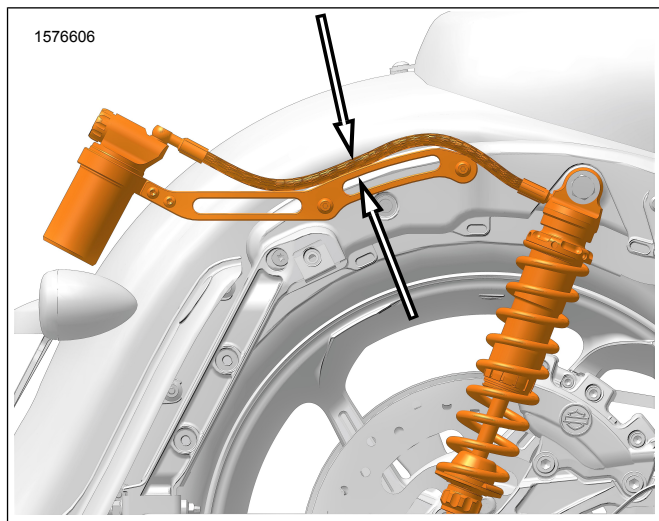

Figure 7. Cable Strap Placement
9. See Figure 7. Secure hose with cable straps.